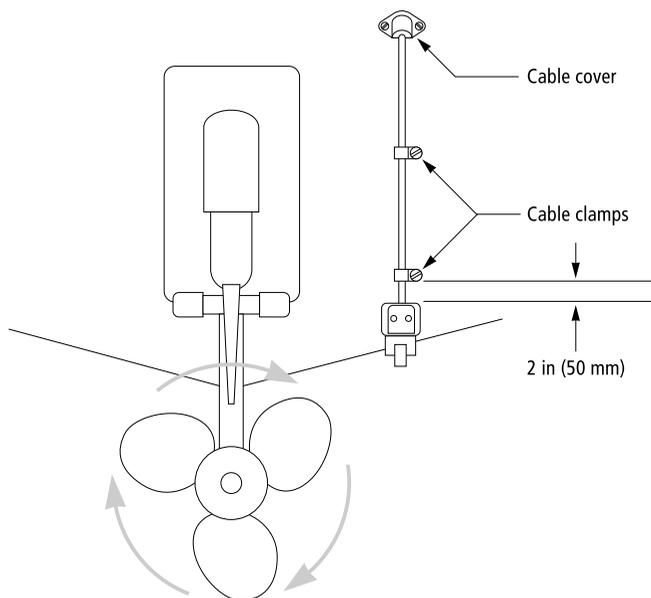

Figure 1-5: Installing the Cable on a Transom Mount Transducer
- For a Transom mount installation – route the cable up and over the top edge of the transom as shown in *Figure 1-5*. Secure the cable using cable clamps (available from your local marine equipment supplier).